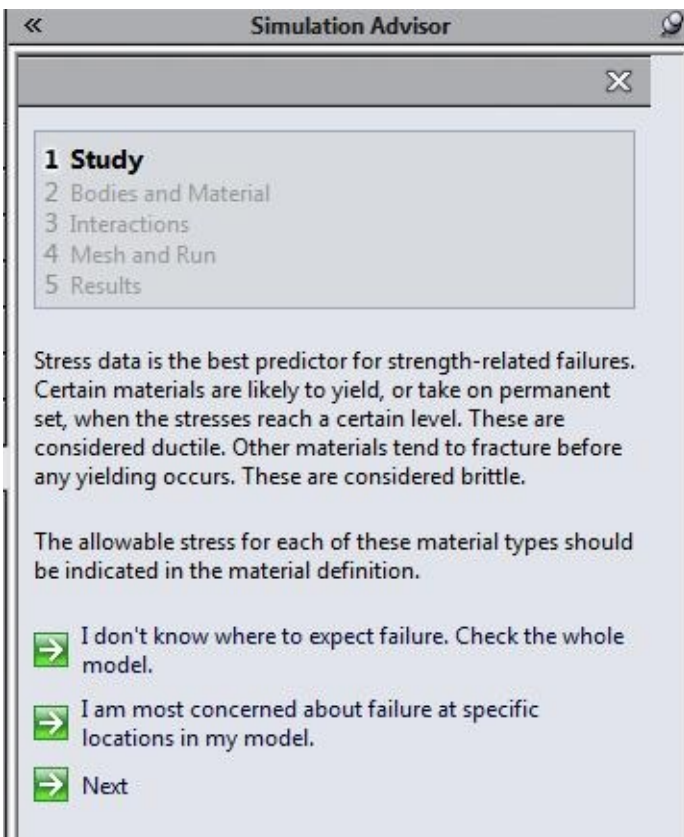

Figure-37. Simulation Advisor with another page related to material failure
- Click on the **I want to check material failure link** button to check for material failure. The next page for material failure will be displayed in the **Simulation Advisor**; refer to Figure-37.